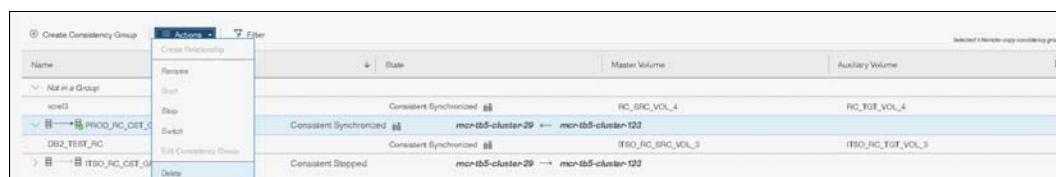

Figure 10-153 Selecting the Delete Consistency Group option
3. Click **Actions** → **Delete**, as shown in Figure 10-153.